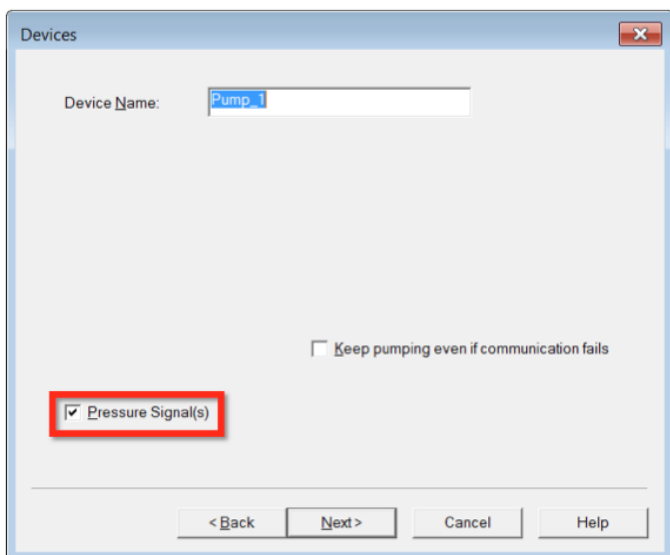

Figure 5. Adding the Integrion HPIC Pump Wellness Module to the instrument configuration
3. Select the Devices Tab and click on the Pressure Signal(s) box (Figure 5).